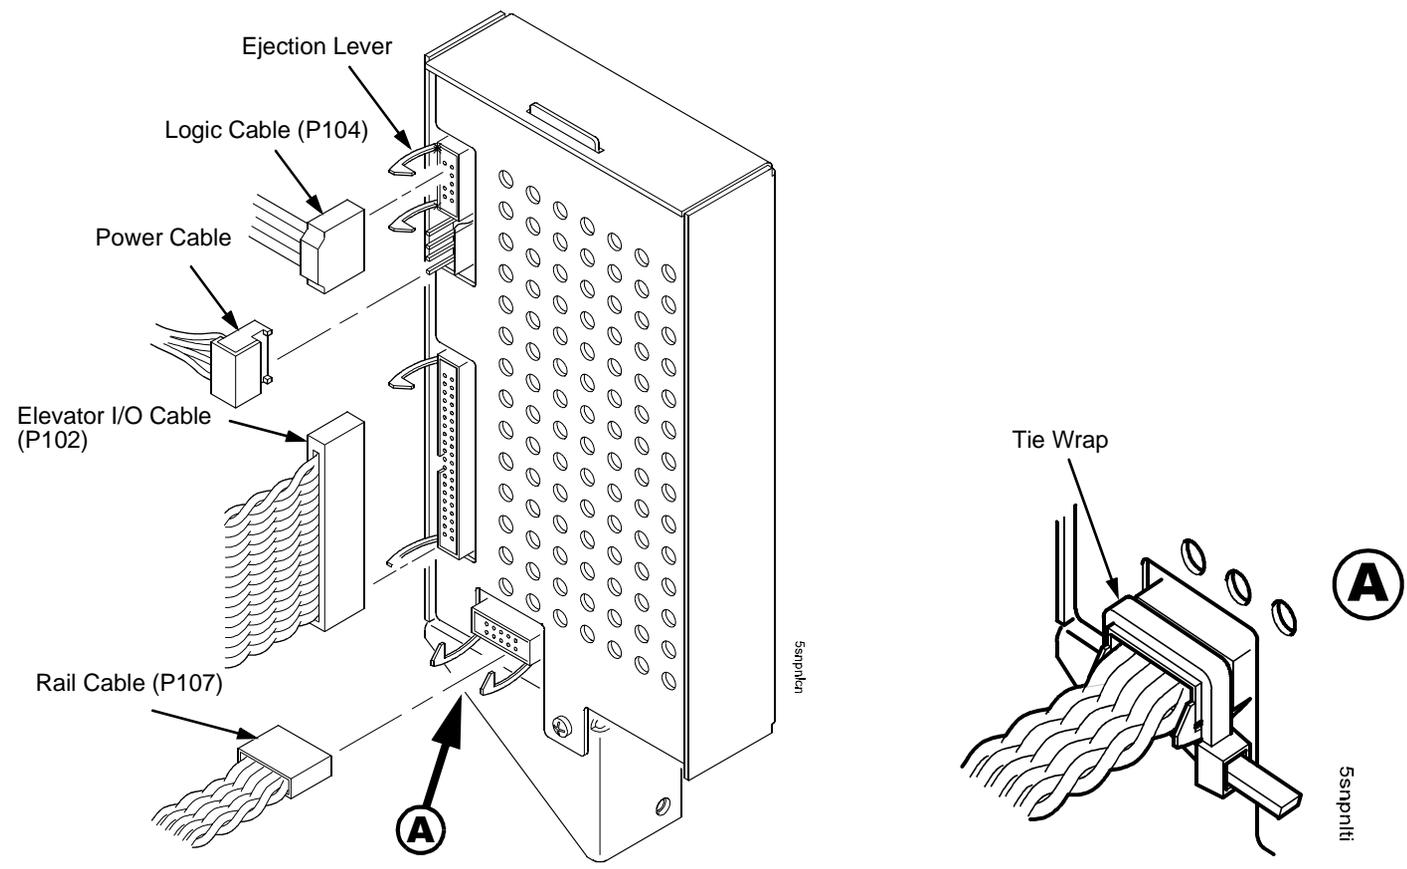

Figure 92. Install the Operator Panel Cables to the Rear of the Stacker Operator Panel
21. Connect the stacker cables to the rear of the stacker operator panel assembly and make sure the ejector levers close over the connectors. (Figure 92.)
22. Press rail cable connector P107 into the operator panel until the ejectors close, then tie wrap the ejectors to the connector. (Figure 92, detail.)